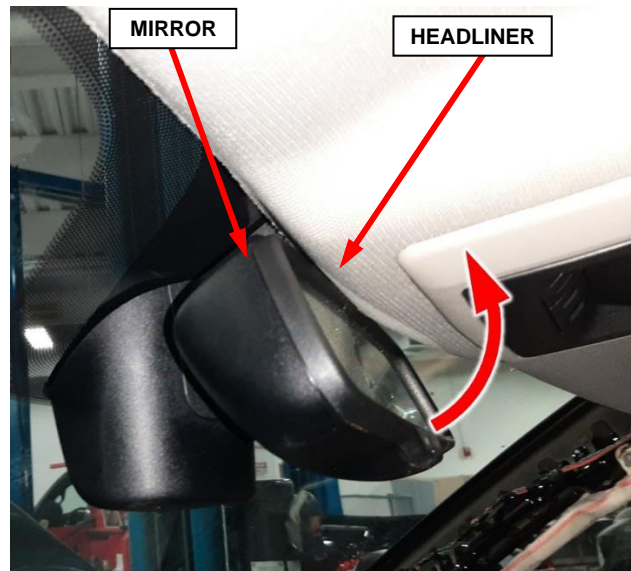

Figure 30 – Headliner Harness
23. Tilt the rear view mirror up to allow clearance for lowering the headliner (Figure 30).
39. Tilt the rear view mirror down to support the headliner (Figure 30).